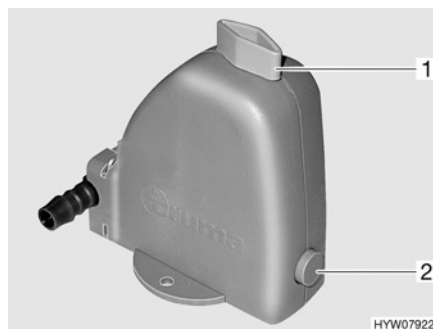

Fig. 87 Safety/drainage valve
The heater is equipped with a safety/drainage valve (Fig. 87). The safety/drainage valve prevents water for the production of hot water from freezing, when there is frost and the heater is not switched on.
- Close the safety/drainage valve. Turn the knob (Fig. 87,1) perpendicular to the safety/drainage valve and push the push button (Fig. 87,2) in.
- Open the safety/drainage valve. To do this turn the knob (Fig. 87,1) parallel to the safety/drainage valve. The push button (Fig. 87,2) jumps out. The domestic water container is emptied to the outside through the safety/drainage valve.